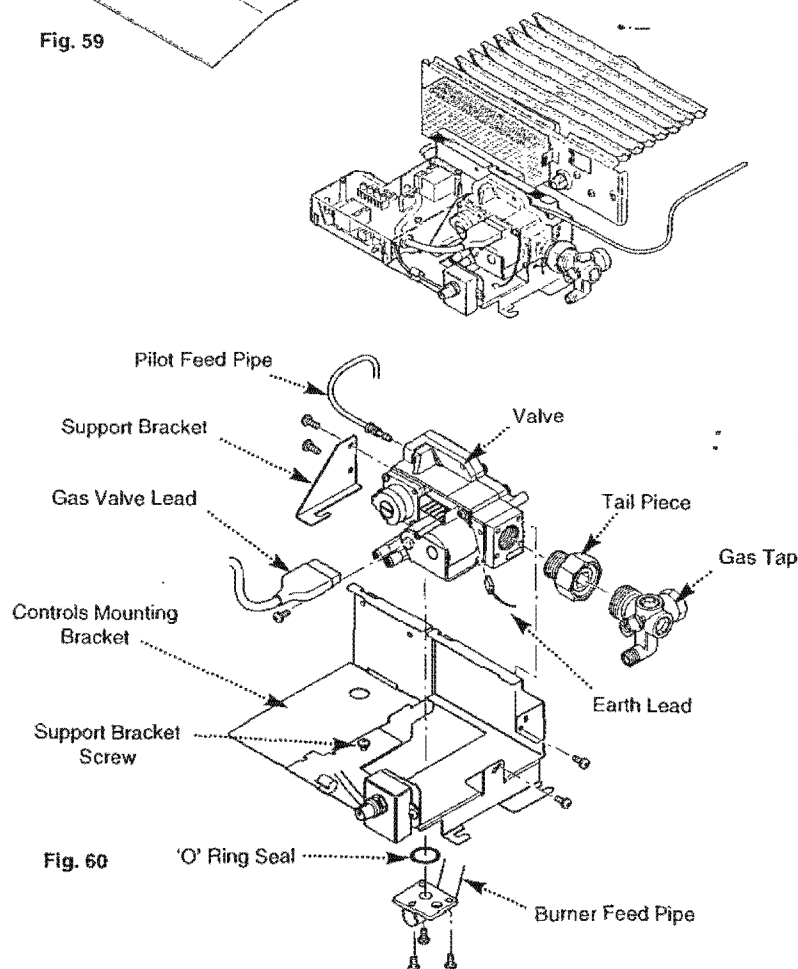

Fig. 60
2. Remove the screw on the gas valve lead and remove lead (Fig. 60).
3. Remove the three screws holding the burner feed pipe to the valve, being careful not to lose or damage the "O" ring seal (Fig. 60).
4. Undo the pilot feed pipe nut from the valve (Fig. 60).
5. Remove the two screws holding the valve to the controls mounting bracket adjacent to the union nut and tailpiece (Fig. 60).
7. Remove the valve from the controls mounting bracket (Fig. 60).
8. Remove the tailpiece and union nut from the original valve and fit to the new one (Fig. 60).